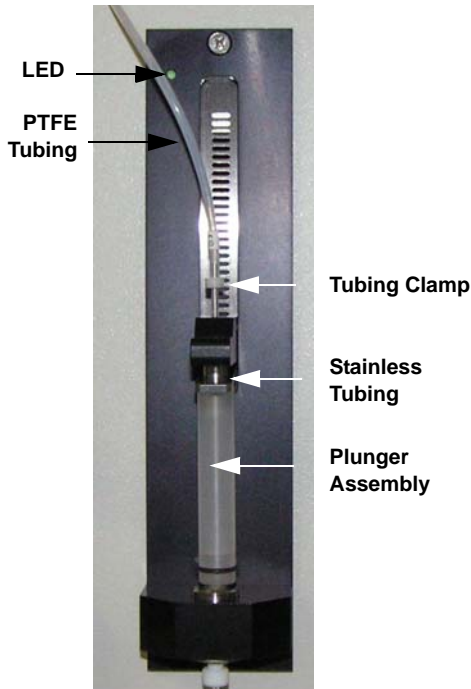

Figure 5-8. Tubing Clamp Movement
2. Slide the tubing clamp up so that it is no longer over the stainless steel tubing (see Figure 5-8).
5. Unscrew the plunger assembly (see Figure 5-8) and pull it down to remove it from the cartridge holder.